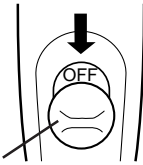

Fig.19
- 2 To turn off the vacuum cleaner, move the switch to the "OFF" position. (Fig. 19)